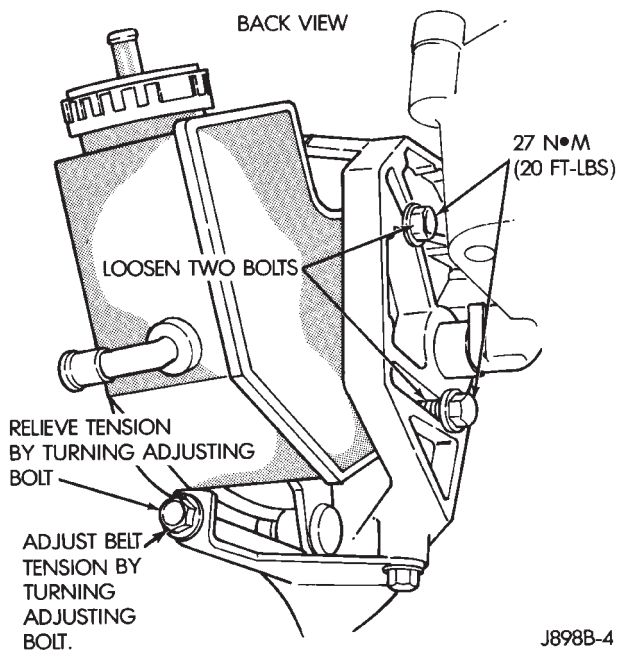

Fig. 1 P.S Pump Rear Mounting Bolts
- (1) Disconnect negative cable from battery.
- (2) Loosen rear mounting bolts (Fig. 1).